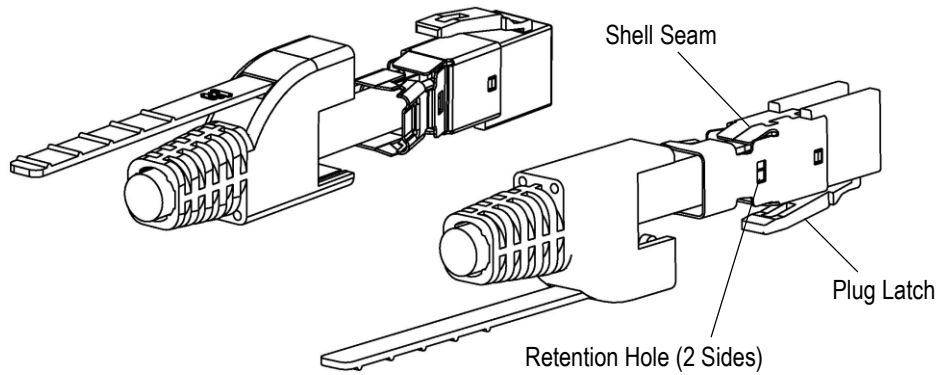

Figure 7
6. After termination, slide the shell over the module assembly and bottom. In order to ensure that the shell is oriented properly for placement in the crimping tool, make sure the shell seam is opposite the plug latch prior to insertion of the plug body. See Figure 7.